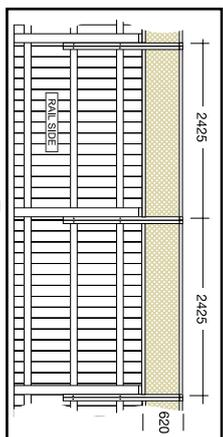

Fig 1a
- If fitting Matrix Fence Extensions to the frame side of the fence, select a starting point and mark out where each upright will be secured to the fence rails to ensure that there is no interference with the fence posts (each Matrix Fence Extension is 2425mm long as shown in Fig 1a). Shift the starting point or shorten one of the Fence Extensions if there is interference with a fence post.
4. Attach each fence extension to the fence using two large screws or bolts per upright as shown in Fig. 1a, 1b, or 1c. Measure from the top of the fence to middle of the first and second fence rails, then mark and drill the holes in each upright. The holes need to be large enough for the screws or bolts to fit through easily.